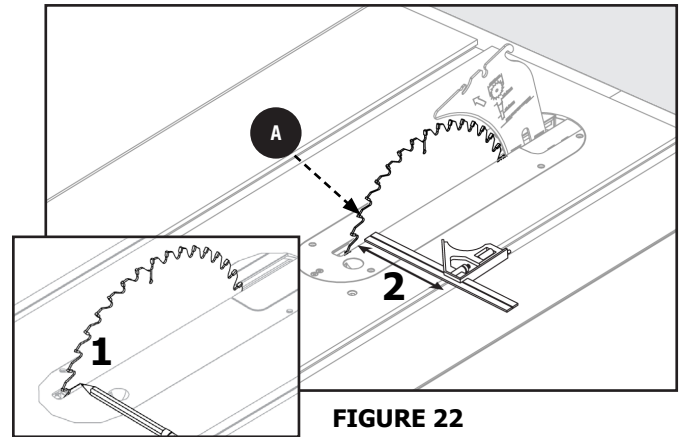

FIGURE 22
1. Mark beside one of blade teeth at front of blade **A** Figure 22. Place the combination square against the marked tooth at the front of the blade **A** with the head of the square against the miter gauge groove as shown.